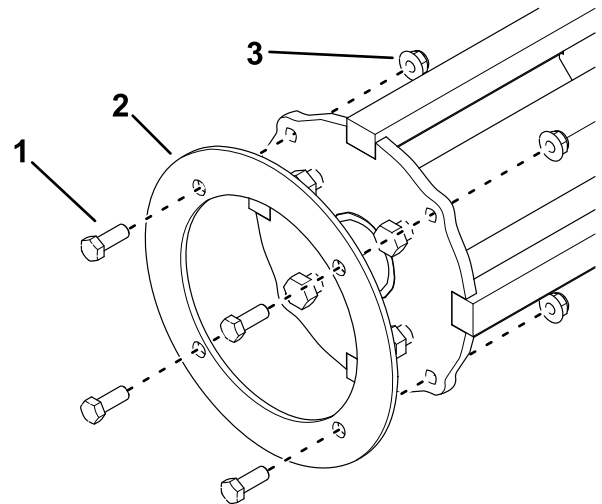

Figure 9
6. Remove the 4 bolts, 4 nuts, and the retaining plate (Figure 9).
3. Install the retaining plate (Figure 9).